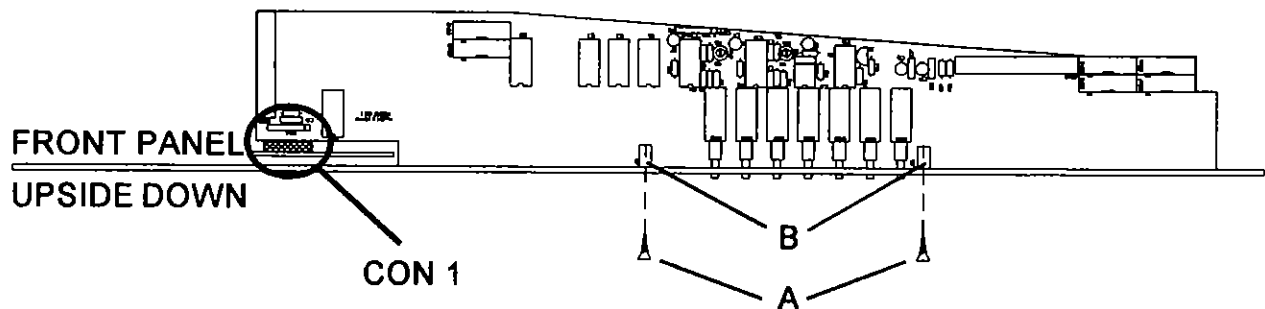

Fig. 12.
4. Move the console, so that the Keyboard PCB overhangs your work surface, to gain access to the Keyboard PCB mounting screws. Mount the Keyboard PCB into the position of the old Mute Processor PCB as follows. Fix the PCB into place by inserting the brown 8-way connector (CON 1) onto the Meter PCB connector. Using the two countersunk screws from stage 1, secure the Keyboard PCB into place by tightening the countersunk screws (A) through the front panel into the black plastic joint blocks (B) mounted on the Keyboard PCB. *see Fig. 12.*